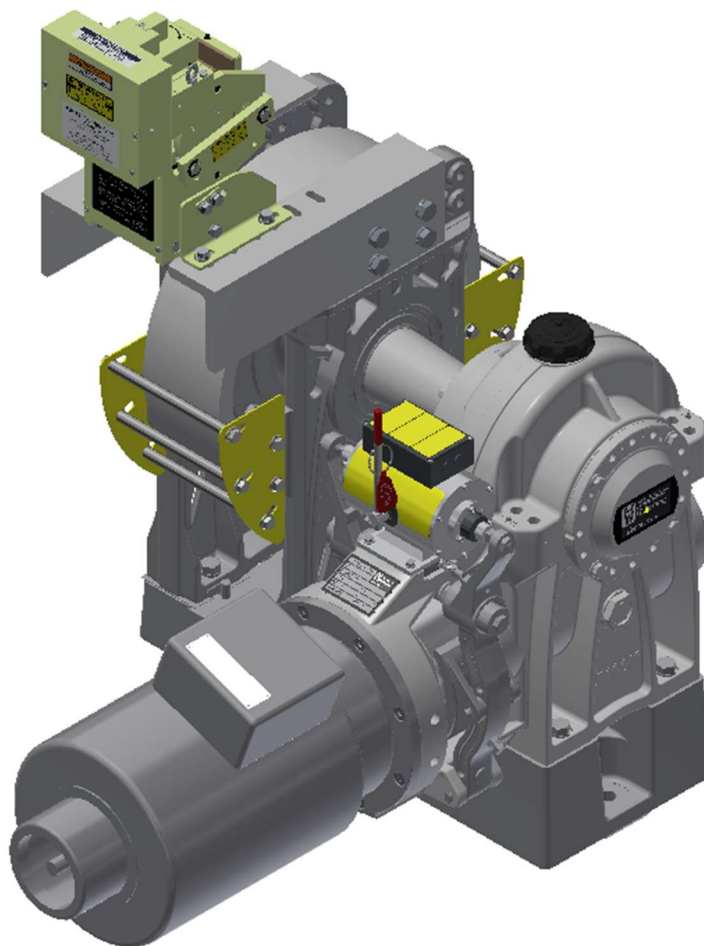

Figure 4-20: BS Machine with mounted gripper
- See Figure 4-20 for an illustration of a finished installation.